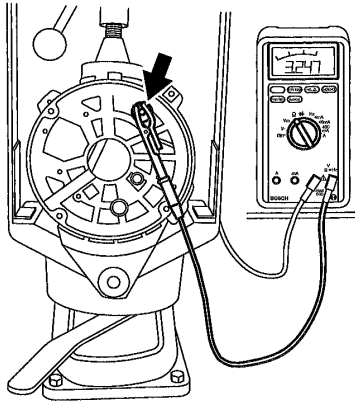

Figure 15 Testing of W Terminal Dampening Resistor
1. The W Terminal incorporates a dampening resistor. Using a Multimeter MMD 302, connect one lead to the exterior portion of the W terminal and connect the other lead to the other side of the W Terminal. The Multimeter should read between 3.1 and 3.5 k (kilohm). If the resistance is above or below this range, the W terminal is to be replaced as an assembly. (Figure 15)